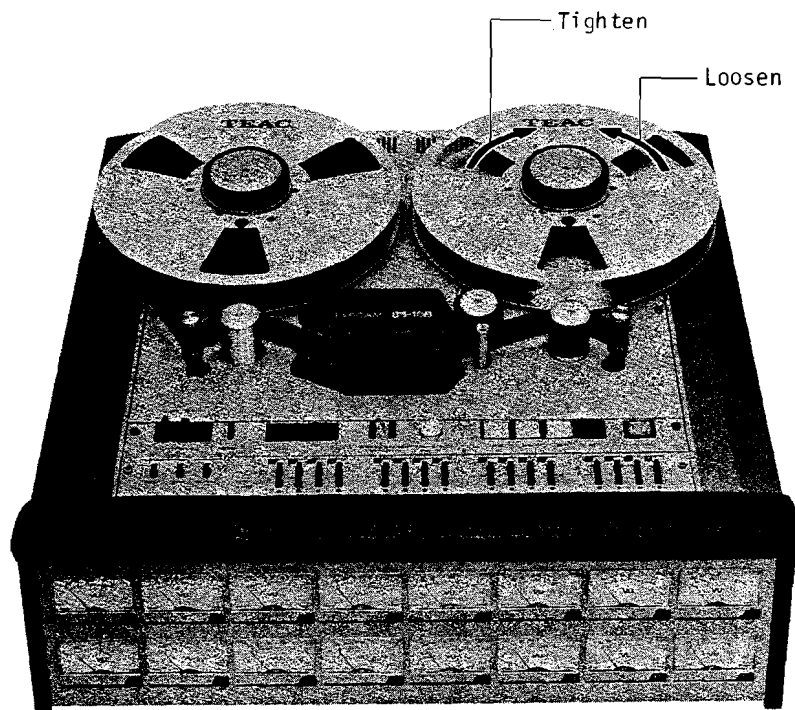

Fig. 7-1
- 3) The tape path must be as shown in Figure 7-1.